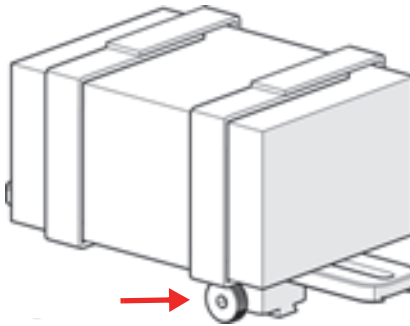

Figure 4-142 Knob to secure the pre-amp bracket on the frame bar
3. Mount the bracket on a frame bar, and tighten the knob (see Figure 4-142 on page 197).